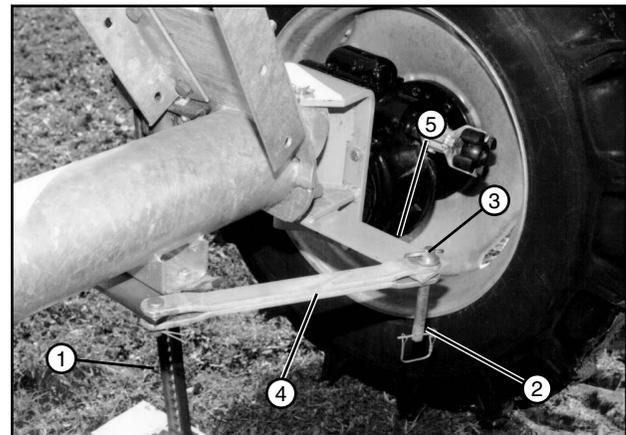

Figure 37-3 1. Jack
3. The wheels on each drive unit must be turned into the operating position. Use a jack to lift one side of the drive unit until the tire is off of the ground. See Figure 37-3.
4. Remove lynch pin from torque pin, then remove torque pin and disconnect tow link bar from steering arm. See Figure 37-3.